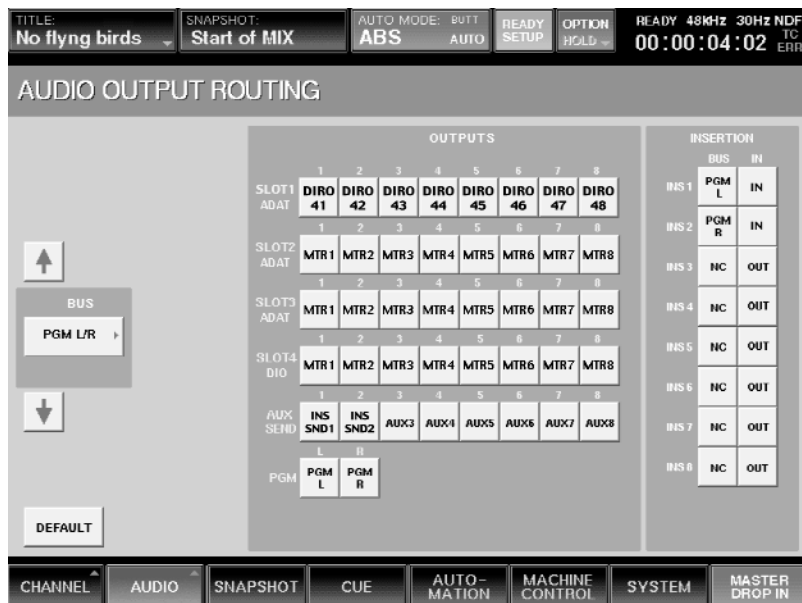

Figure 29
- 6 Now press 2 in the INS SEND 1-8 Bus drop-down menu, and press AUX SEND 2 in the Outputs section. INS SND2 will be selected for Aux Send 2. (See Figure 29)